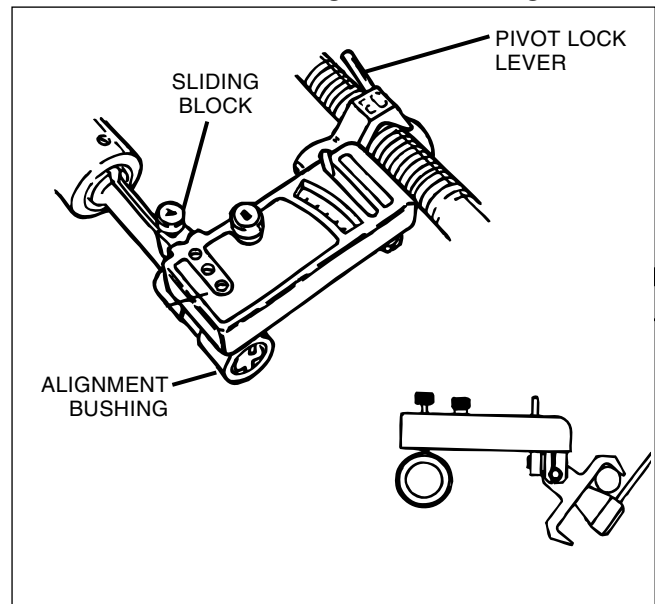

FIGURE 2-10, Runout Indicator
4. Attach RUNOUT INDICATOR supplied with machine to threaded stoker drive shaft as shown (see Figure 2-10). Position aluminum indicator base so that letters "EC" are up and facing you, with that surface approximately level. Move clamp handle until plastic cone on cam grips threaded stoker drive shaft.